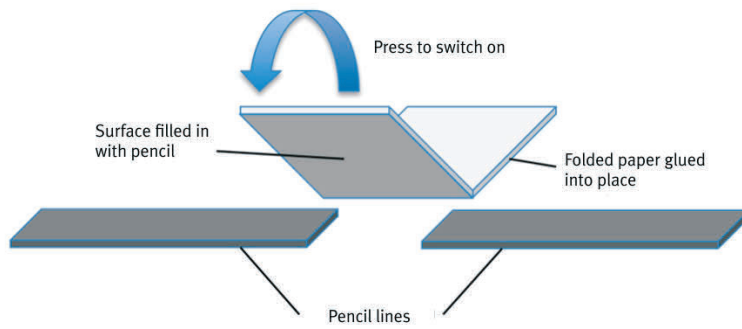

Figure 7: Simple paper switch
- Fully blacken one half of a piece of paper which entirely covers the gap with the 8B pencil and glue the other half onto the sheet so that graphite contacts graphite when the flap is lowered. Fold up the free end slightly (see figure 7).